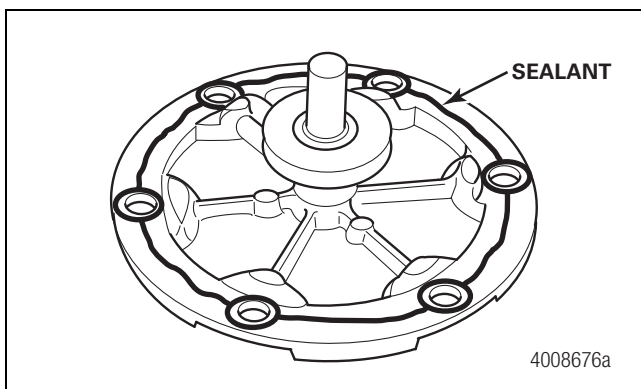

Figure 5.27
8. Apply a continuous 0.24-inch (6 mm) bead of Dow Corning 7091 sealing compound to the inner face of the cover plate. Figure 5.27.